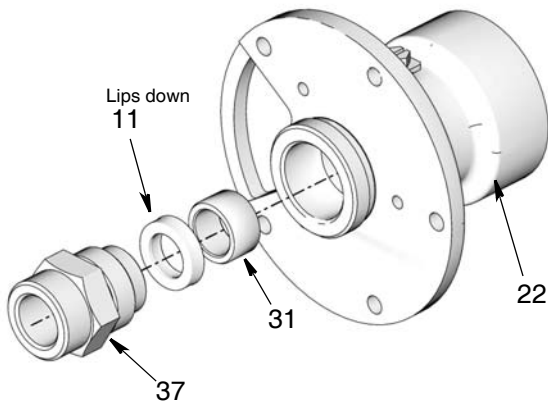

Fig. 29
- Remove u-cup seal (11) from flange (22) (Fig. 29). Grease and replace the u-cup seal with the new part included in the kit and install them in the order shown in Fig. 29.
- The bearing (31) is not included in the kit. This part is reused. The bearing can be installed with either side facing up. There is not just one way to install this part.
- The bearing (31) is a transition fit and in some installations it may not be removed.
- Be sure u-cup seal (11) is installed with the lips facing down as shown in Fig. 29.